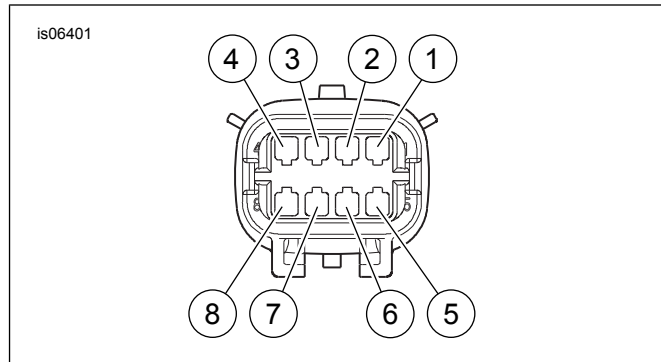

Figure 1. Molex Eight-Way Pin Housing 72478-07BK (Wire-End View): Cavity Identification
1. Get the eight-way Molex pin housing (9) from the kit. See Figure 1. Follow the instructions in the service manual to insert the light assembly wires and pin terminals into the correct cavities of the housing:
- g. **Seal plug** (10) to cavity 7.